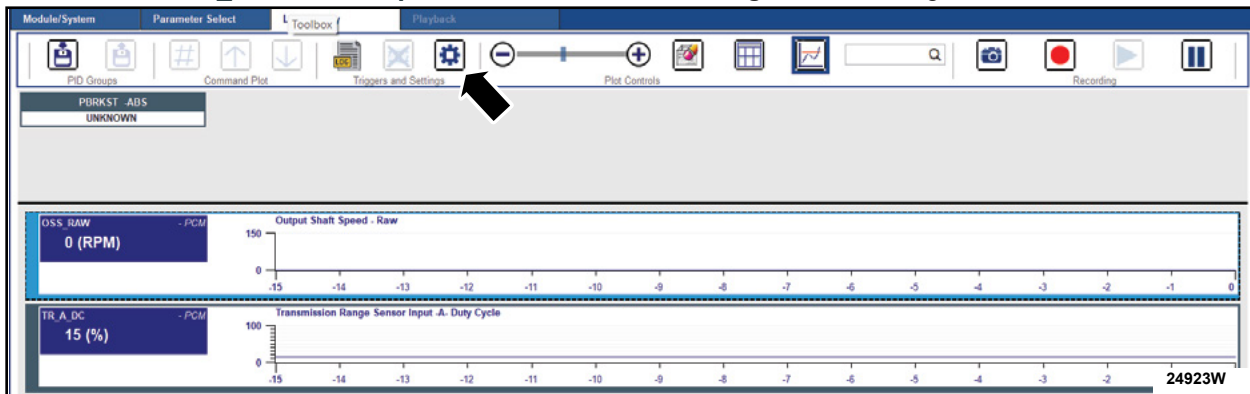

FIGURE 3
- Select the **OSS_RAW PID/Graph** and then select the **Settings** icon. See Figure 3.